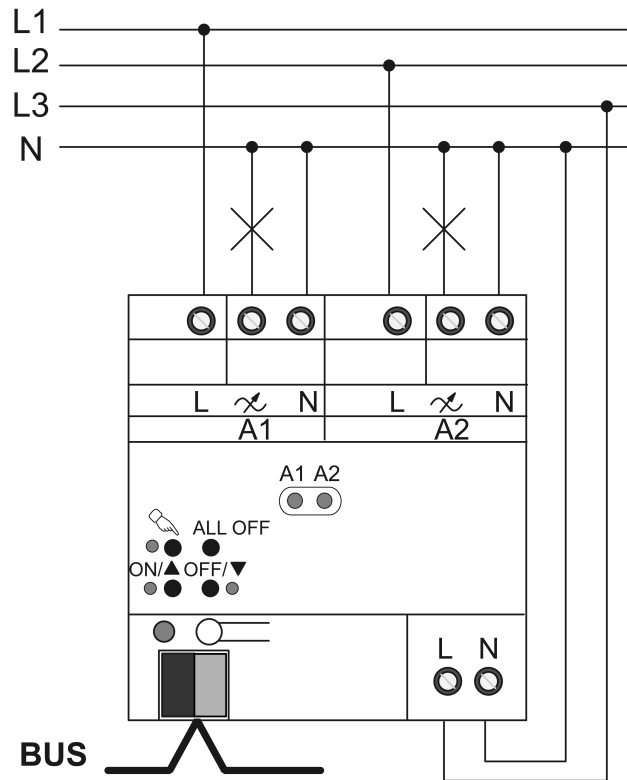

Figure 4: Dimming actuator – Connection example
- Connect device as shown in the connection example (Figure 4).